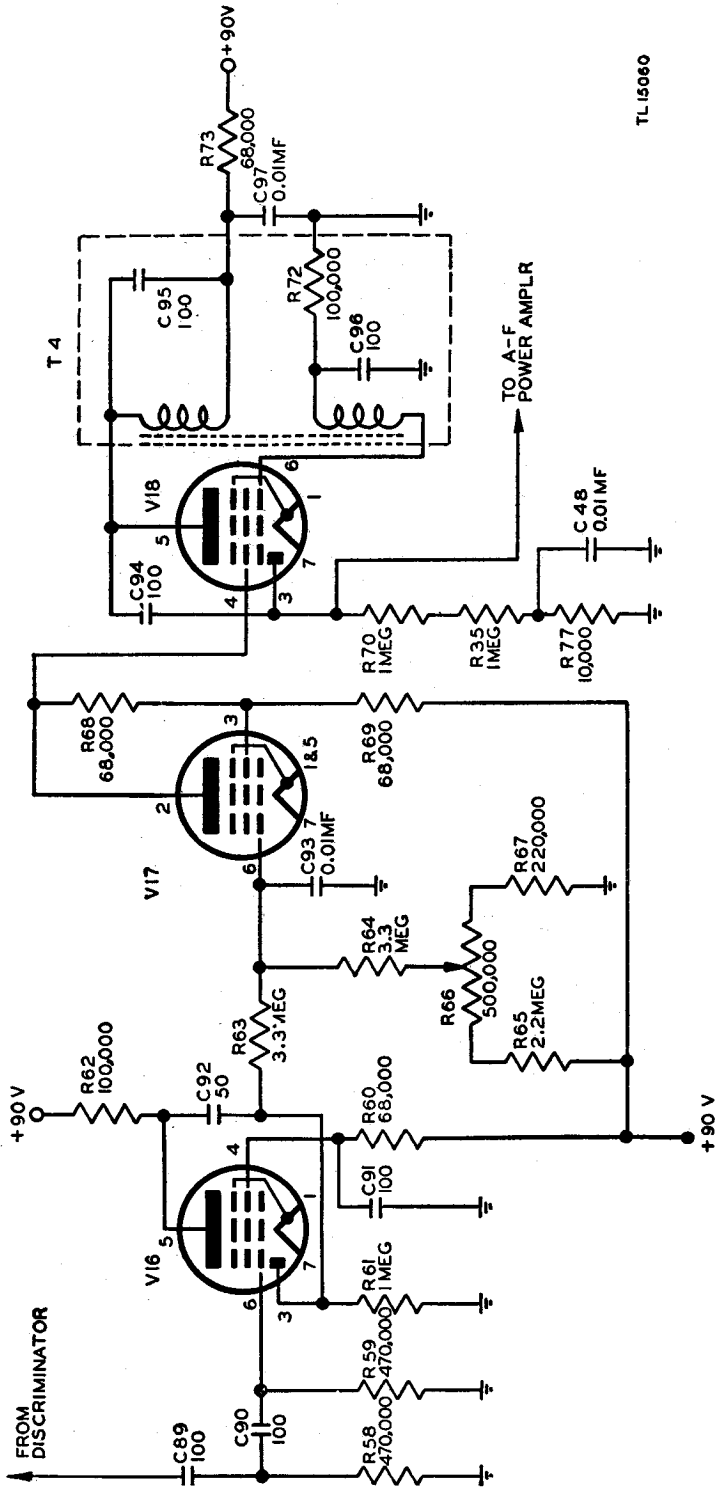

Figure 51. Radio Receiver and Transmitter BC-1000-A, noise squelch circuit.
a. The noise squelch circuit as shown in figure 51 consists of a noise amplifier-rectifier Tube JAN-1S5, V16; d-c amplifier Tube JAN-1L4, V17; and squelch oscillator-rectifier Tube JAN-1S5, V18. In the reception of a frequency-modulated signal, the action of the receiver limiter prevents amplitude noise impulses from appearing in the discriminator output. However, during the intervals when no signal is received, the